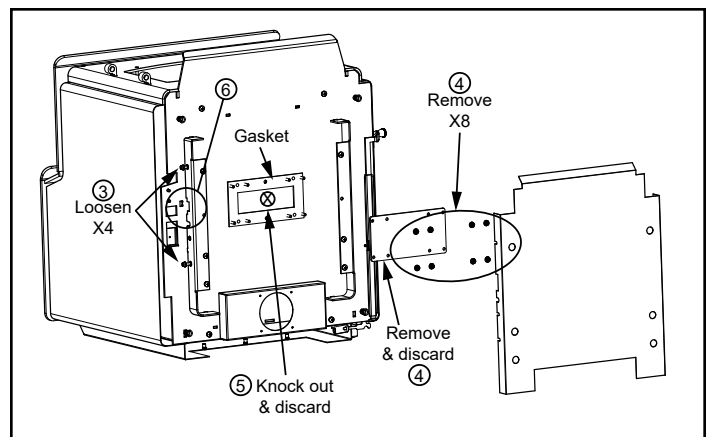

Figure 21.2
3. Lay appliance on its back on a protective pad or pallet (**Figure 21.2**).
4. Remove heat shield by loosening the four bolts using 3/8 open end wrench (**Figure 21.2**).
5. Remove 8 nuts that hold the cover plate on using a 7/16 socket wrench; discard cover plate (**Figure 21.2**).
6. Remove knock out from bottom of firebox by using a hammer (**Figure 21.2**).
3. Lay appliance on its back on a protective pad or pallet (**Figure 21.2 on page 21**).
4. Remove heat shield by loosening the four bolts using 3/8 open end wrench (**Figure 21.2 on page 21**).
5. Remove 8 nuts that hold the cover plate on using a 7/16 socket wrench; discard cover plate (**Figure 21.2 on page 21**).
6. Remove knock out from bottom of firebox by using a hammer (**Figure 21.2 on page 21**).